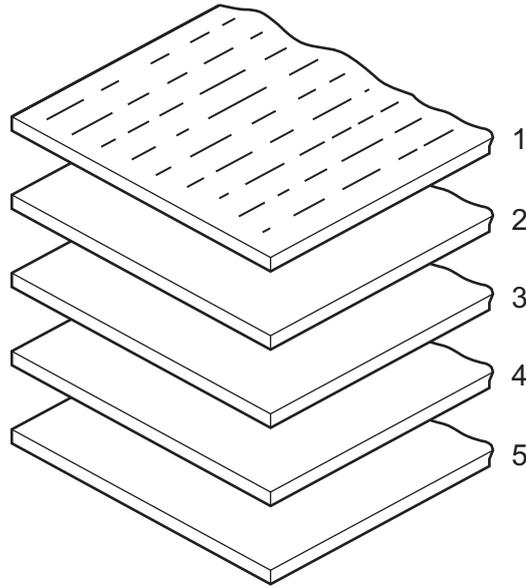

Fig. 12.2
- (d) Fig. 12.2 shows an exploded view, showing five layers (plies) of 15 mm thick plywood.
- (i) Add sketches to Fig. 12.2 to show the grain direction on layers (plies) 2, 3, 4 and 5. [1]